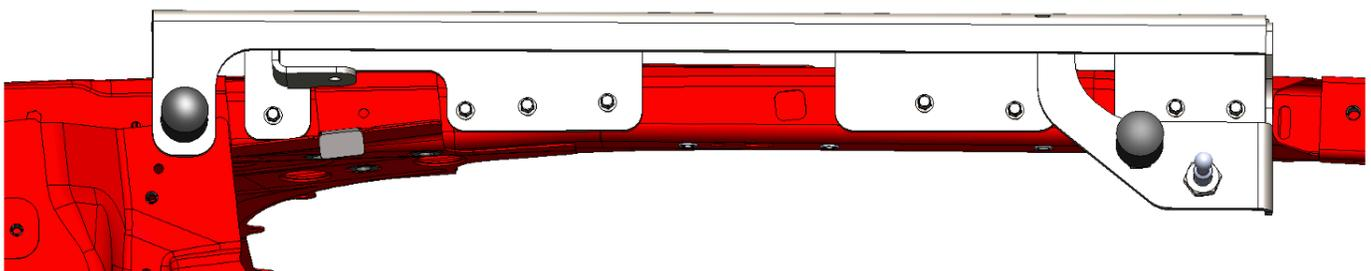

Figure 13
12. Use eight (8) 10mm flange bolts to install the hood/fender mounting brackets (22773 and 22774) to the side frame. Figure 13.